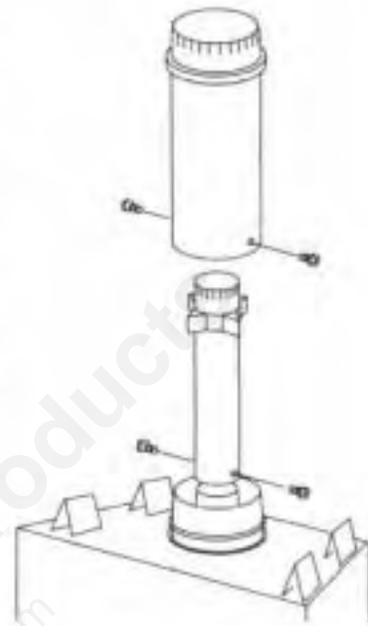

Figure 19
**B.** The vent sections are crimped at one end to provide a slip fit for elbows and additional vent sections. To begin a vent run, apply \_Mill-Pac Black (700°F) high temperature sealant to the inner joint, being sure of a 100% seal (Figure 19). Slide the 5" (127 mm) inner section onto the center appliance collar, (Crimped end always upward). Locate and transfer drill a 1/4" (3 mm) diameter hole through the collar at the two (2) punched holes (180° apart). Use two (2) No. 8 x 1/4" sheet metal screws to secure the section.
**C.** Next, slip the outer section over the inner and onto outer appliance collar, bottoming out at the bead. Make sure the crimped end of both inner and outer vent sections are the same height. Secure using two (2) sheet metal screws (Figure 19).